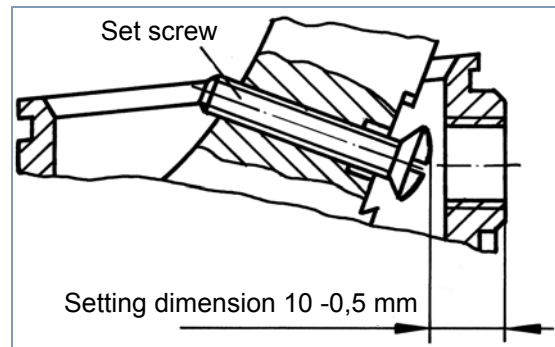

Fig. 5 Position of the set screw / Setting dimension
- Adjust set screw (setting dimensions see fig. 5) and secure it with threadlocking adhesives (low shear strength).